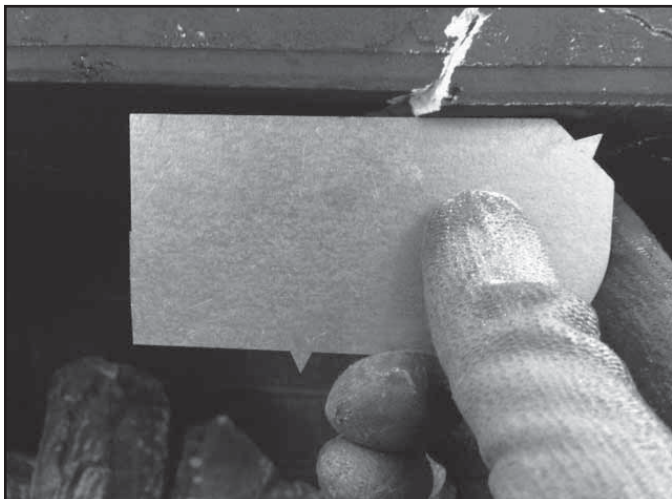

Figure 12.1 Surface plane of firebox is comprised and should be replaced.
- Cracks compromising the surface plane of the firebox. See Figure 12.1.